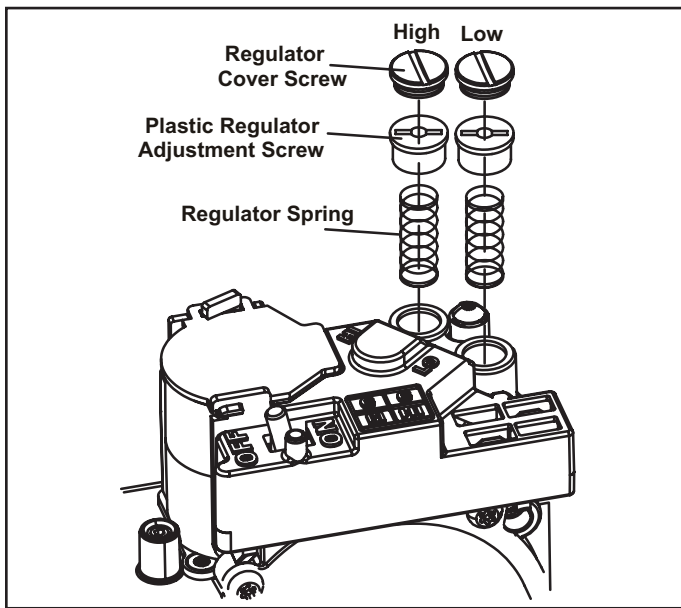
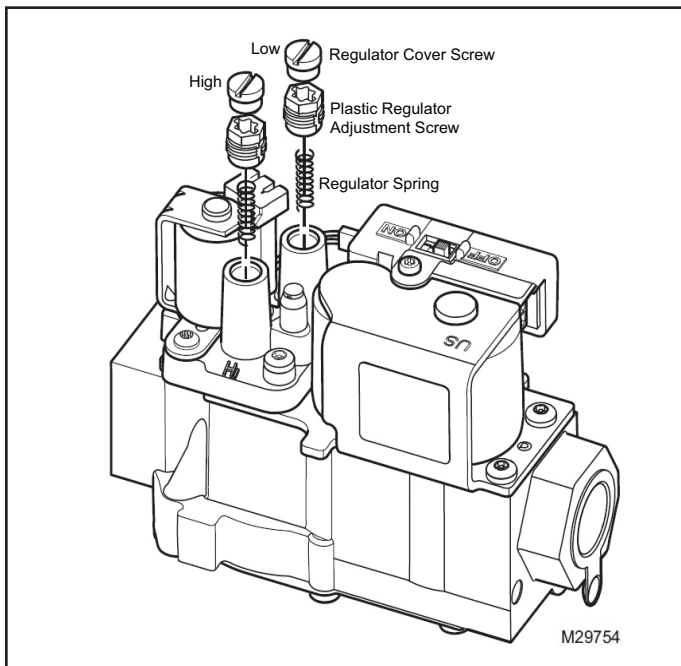

Figure 6. Remove Springs from White Rodgers Gas Valve
Figure 7. Remove Springs from Resideo Gas Valve
- a. Remove both high fire and low fire springs from the gas valve. See Figure 6 or Figure 7.